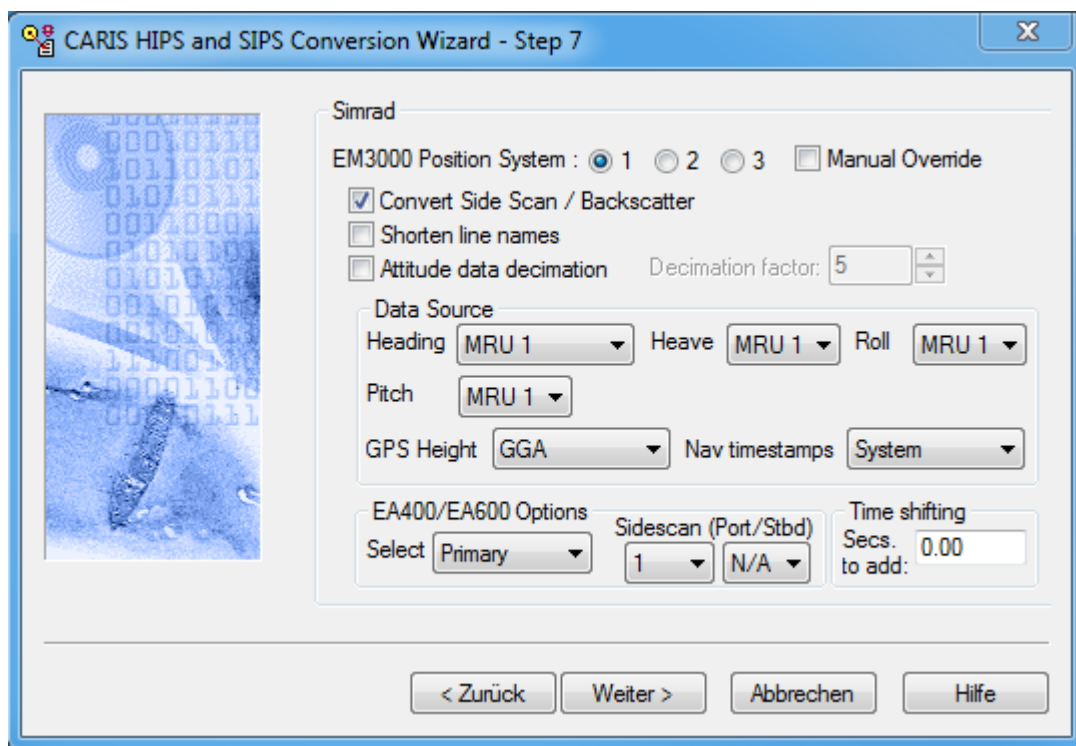

Figure 23: Step 7 of the Conversion Wizard
6. Start conversion by clicking **Next** (Figure 23)